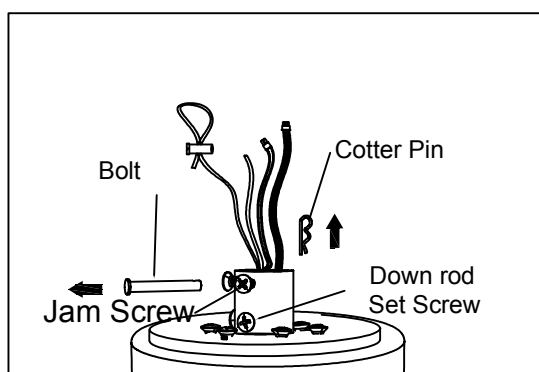

Figure 1.1
- Take out the motor assembly and pull out the bolt and cotter pin, Loosen the two set screws in the down rod support of the motor assembly.(Figure 1.1)